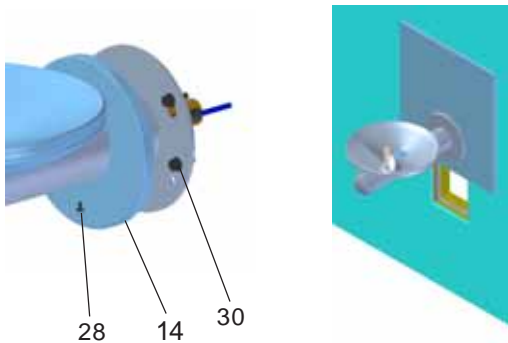

Figure 8 - EDFPBWM114C Fountain Installation
4. **Install fountain.** Remove screw (Item 28) from cover plate and slide cover plate (Item 14) toward basin. Mount the fountain to the back panel and mounting plate with (4) 5/16" x 1" (25mm) long screws (Item 30 - provided). Tighten securely. (See Figure 8)